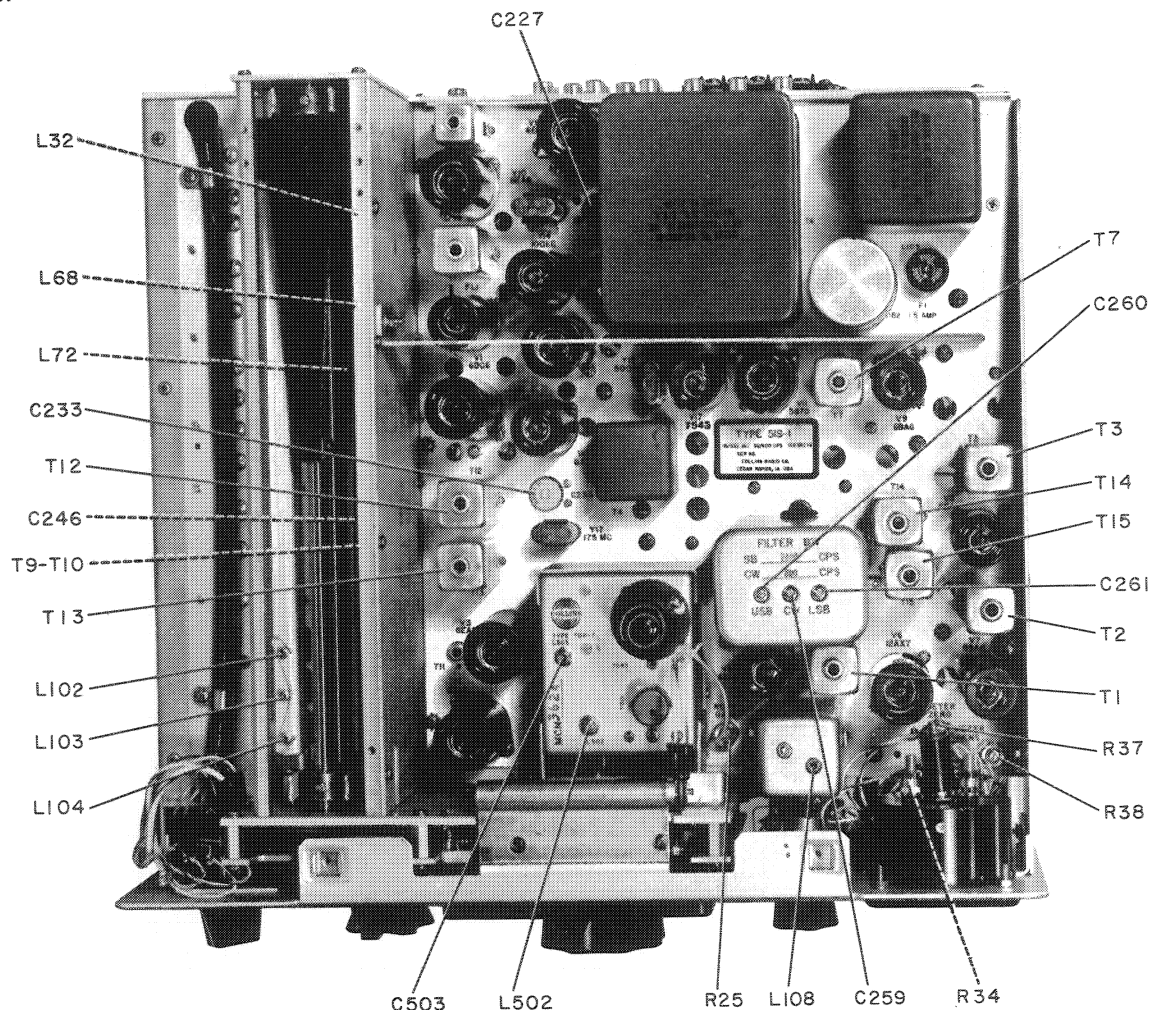

Figure 4-1. Top Chassis, Alignment and Adjustment Locations
Refer to figures 4-1 and 4-2 for adjustment points. For alignment of T9, T11, T12, T13, T1, T2, T3, T14, T15, T7, use Walsco #2543 or General Cement #8282 alignment tool.
- d. Set the main trimmer capacitors, C40, C71, and C74, to 1/2 capacity. See figures 4-1 and 4-4.